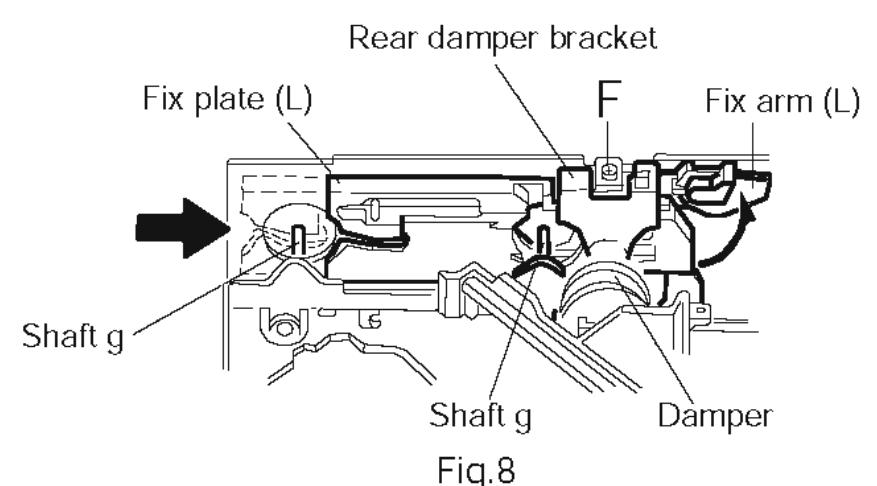

Fig.8
- Raise the both sides fix arms and move the fix plates in the direction of the arrow to place the four shafts **g** as shown in Fig.8 and 9.